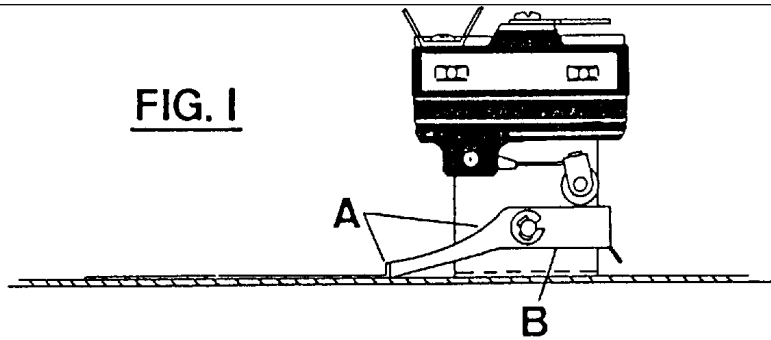

FIG. 1
- Step 3** Place one "A" and two "B" diameter pins inside the drying compartment between the rim of the basket opening and the rim of the door opening in the positions shown in figures 1 and 2. Check the two "B" pins for equal clearance.
2. Lay air switch assembly on flat surface. Adjust air blade at "A" (FIGURE 1) so that air blade lays flat and surface "B" is parallel to the flat surface.